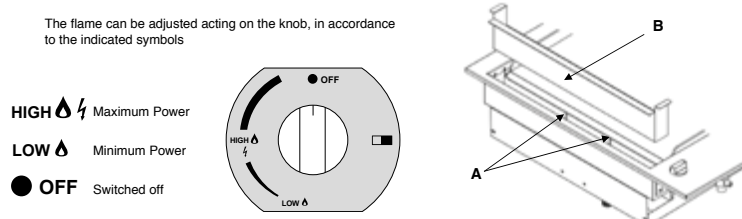

FIG. 4
- The ignited burner is observable through the holes (A) which are visible by removing the drawer to collect oil (B). (See FIG.4)